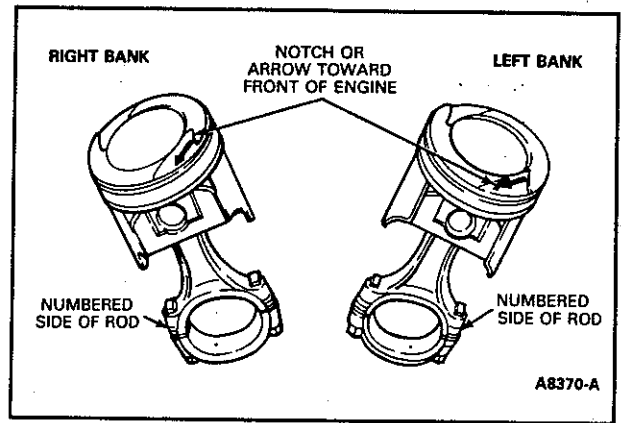

Figure 81 Correct Piston and Rod Positions
1. Apply a light coat of engine oil SF to all parts. **Assemble the piston to the connecting rod with the indentation in the piston positioned as shown in Figure 81.**
2. Start the piston pin in the piston and connecting rod (this may require a very light tap with a mallet). Using an Arbor Press, press the piston pin through the piston and connecting rod until the pin is centered in the piston (Figure 81).